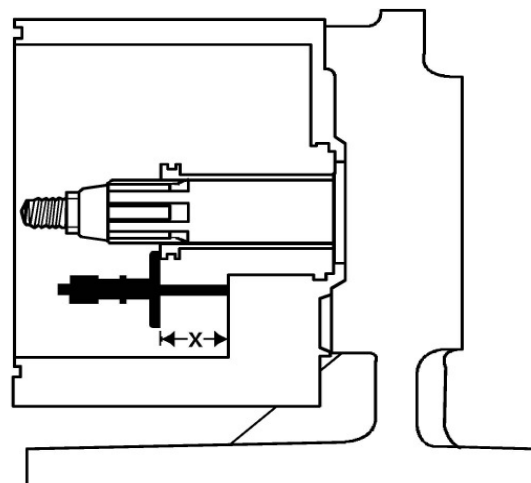

Figure 7 – "X" Dimension
1. Install the bearing housing, item 700, into the power frame, item 600, and tighten the bearing housing mounting cap screws, item 640. Install the pump housing, item 300, on the power frame and tighten the housing mounting bolts, item 340. The mating surfaces between the parts should be cleaned to eliminate any debris or burrs. **NOTE: Be sure that both the cap screws and bolts are tightened to the torque specification provided on page 28.**
2. Install the shaft sleeve, item 530, over the wet end of the shaft, item 200 as shown in Figure 7 below. The shaft sleeve should be pushed onto the shaft until it reaches the shoulder. The mating surfaces between the sleeve and the shaft should be cleaned to eliminate any debris or burrs.
3. Using a depth micrometer, or other tool which measures increments of 0.001", measure the dimension from the shoulder on the shaft sleeve to the back face of the pump housing as shown in Figure 7.
6. Install the correct thickness of shim, item 800, required to fit within the tolerance listed in the chart below for your pump model. Place the shim over the bearing housing flange such that the holes in the shim are lined up with the holes on the bearing housing flange.